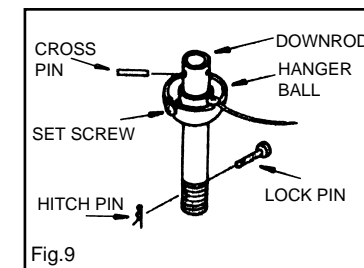

Fig.9
**Step 5.** Remove the Hanger Ball from the Down Downrod Assembly by loosening the Set Screw and removing the Cross Pin. Remove the Hitch Pin and Lock Pin. (Fig. 9)